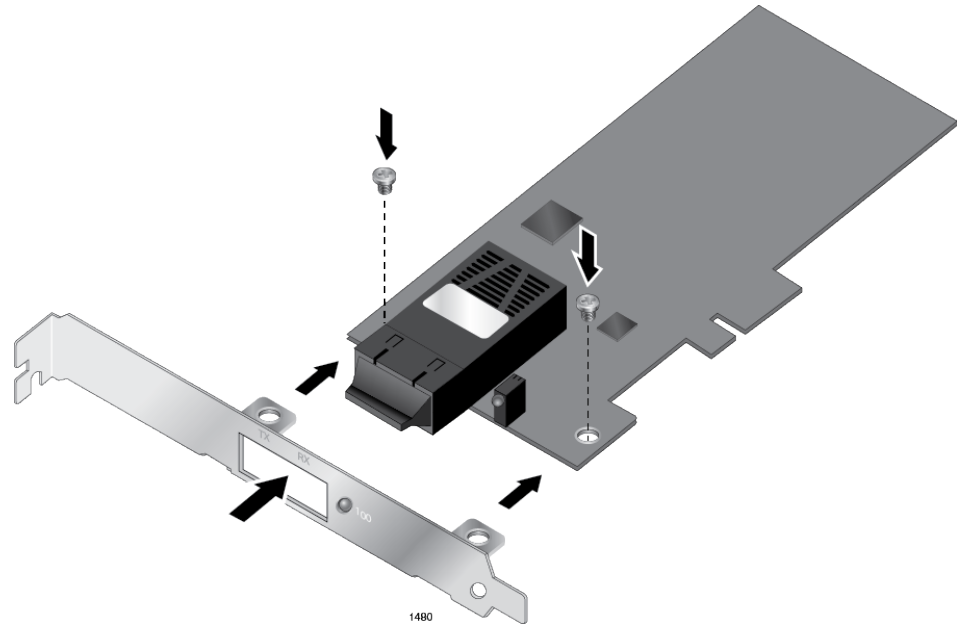

Figure 11. Installing the Standard Bracket
2. Align the tabs of the standard bracket with the holes on the network adapter and fasten the screws onto the network adapter. See Figure 11 on page 35.